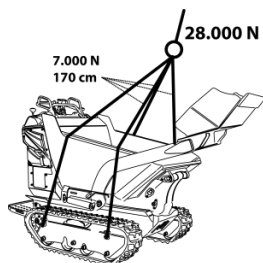

fig. 2.7 – Lifting Anchor Points
- Attach the lifting equipment exclusively to the anchoring points provided by the manufacturer (fig. 2.7).